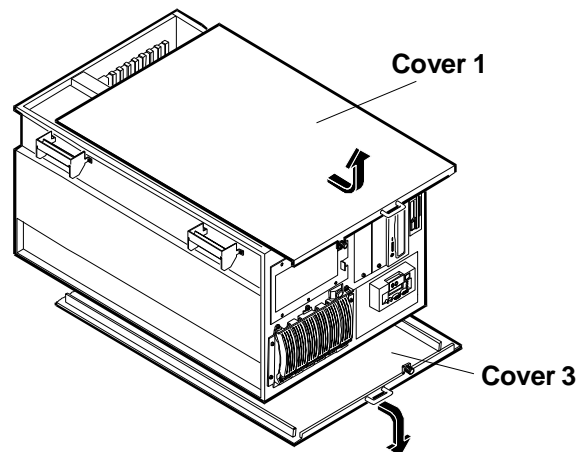

Figure 1-4. Removing the Covers (NetServer LH 3r)
4. Loosen the thumbscrew at the front of covers 1 and 3 and pull the covers forward, using the handles on the covers, and then lift them off the chassis (see Figure 1-4).